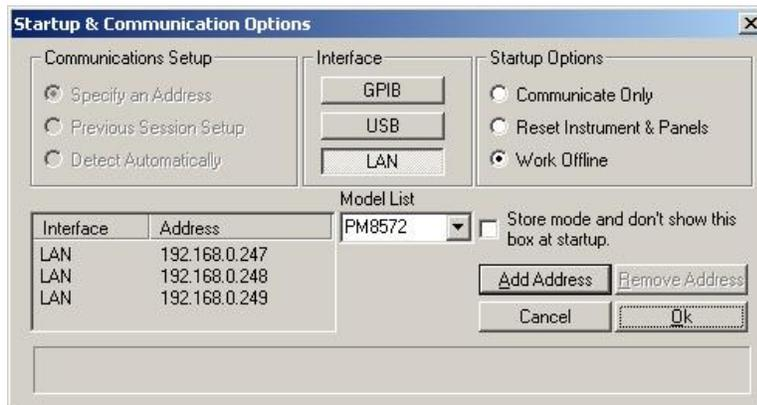

Figure 4-31, Assigning Master and Slave Addresses
6. Select the LAN Interface and add the master and slave addresses as shown in Figure 4-31.